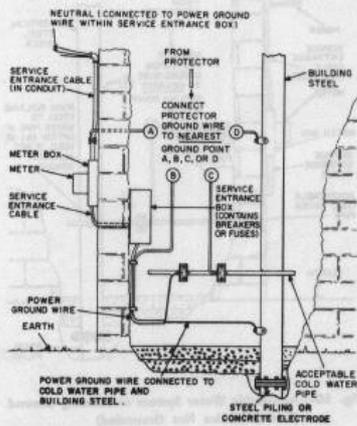

Fig. 45—Acceptable Water System or Building Ground (Power Service Grounded to Cold Water Pipe or Building Steel)
- 6.04 Station protectors installed at locations with the power grounded to an acceptable water pipe, as described in paragraph 6.01, should be grounded as shown in Fig. 45 or installed directly on the water pipe.
a separate ground rod, and the protector should be grounded as shown in Fig. 45.
6.10 Use Table D to select the best protector ground. Table D is designed to help identify the best ground electrode available for most job situations. The decision blocks contain questions regarding the conditions for grounding, the responses to which will lead to the selection of an acceptable ground. The table should be followed until the last block in the path is reached. The referenced notes and figures (Fig. 45 through 51) provide additional information and installation procedures.